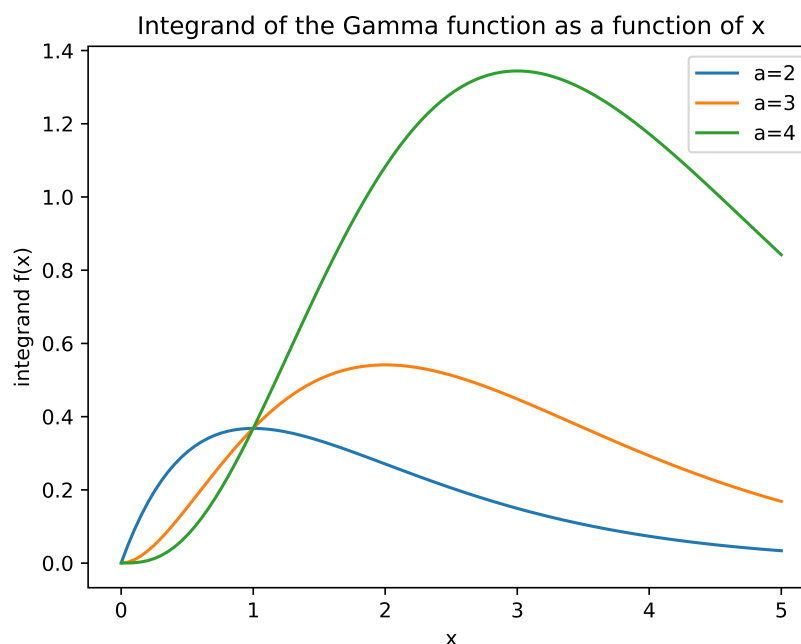

Figure 1: Integrand of Equation 1 evaluated for different  $a$  values
Next, I made three curves by setting  $a = 2, 3$ , and  $4$  and evaluating the integrand over the range  $x = [0, 5]$ . This graph is plotted in Figure 1. All three curves start at zero, rise to a maximum, and then decay.
Looking at Figure 1, we can analyze that  $x=(a-1)$  is a maximum and  $x=0$  seems to be a saddle point.
c) In part c, we consider how to rescale the integral from 0 to inf to a finite range while still evaluating the integral correctly. We saw in Figure 1 that most of the area under the integrand falls under the maximum. So for an accurate evaluation of the integral, we need to capture this part of the integral properly. For this we use the following change of variable given in Eq. (5.69) of Mark Newman's *Computational Physics*;